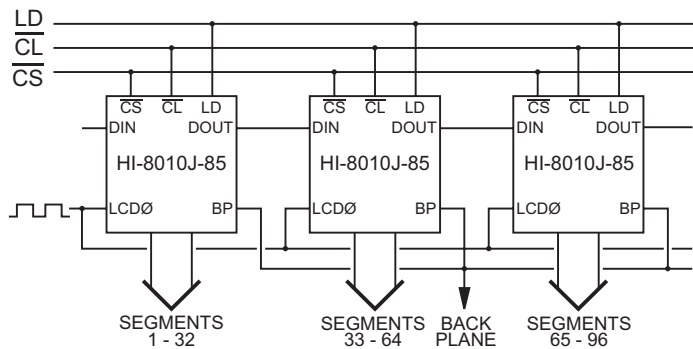
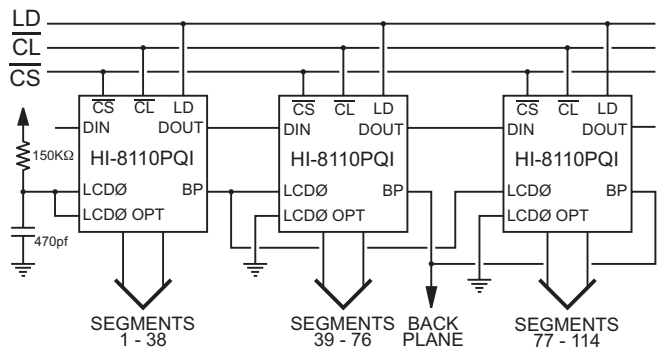

Figure 2
Figure 3
The backplane output functions in 1 of 2 modes; externally driven or self-oscillating. When the LCD0 input is externally driven with the LCD0OPT input open circuit (Figure 2), the backplane output will be in-phase with LCD0. Utilizing the self-oscillating mode, inputs LCD0 and LCD0OPT are tied together and connected to an RC circuit (Figure 3). A 150KΩ resistor with a 470pF capacitor generates an approximate backplane frequency of 100Hz. The LCD0/LCD0OPT oscillator frequency is divided by 256 to determine the backplane output frequency. The resistor value (R) must be at least 30KΩ for proper self-oscillator operation.
For displays having a number of segments greater than 38, two or more of the display drivers may be cascaded together by connecting the serial data output (DOUT) from the first driver, to the serial data input (DIN) of the following driver, etc. (See Figures 2 & 3). Data out (DOUT) will change state